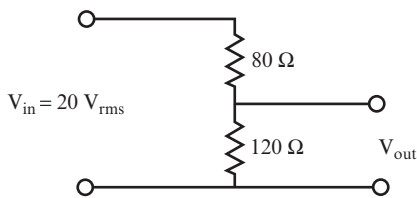

FIGURE 5.7
4. For the circuit shown in Figure 5.7, find the total current flow and the voltage across R_2 , (V_{out}). _____